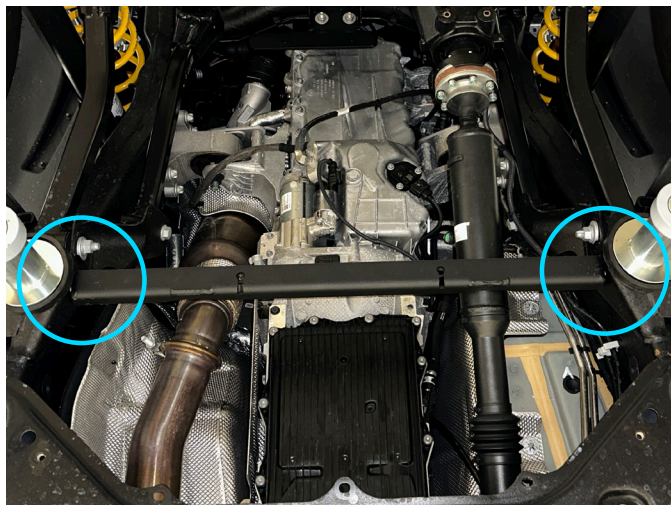
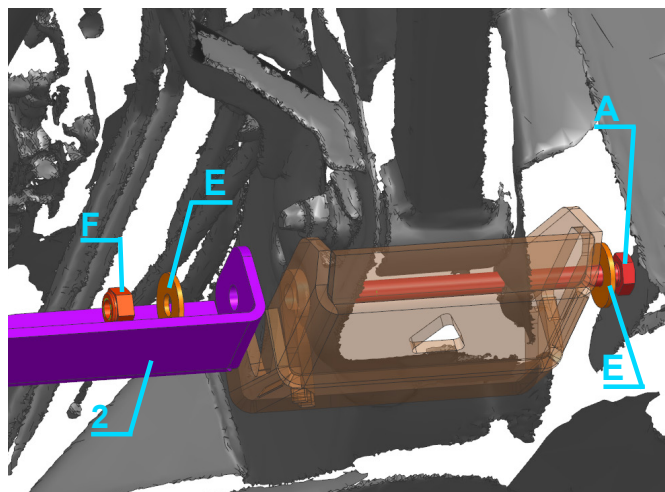

Fig. 5
Fig. 6
4. Slide the crossmember (item 2) and slightly screw it on the left side of the vehicle with the radius arm skid plate 2333.4503.1.6 using bolts M10x150, washers M10 and nuts M10 (items A, E, F) as shown in fig 5 and fig. 6. Do the same on the right side of the vehicle.